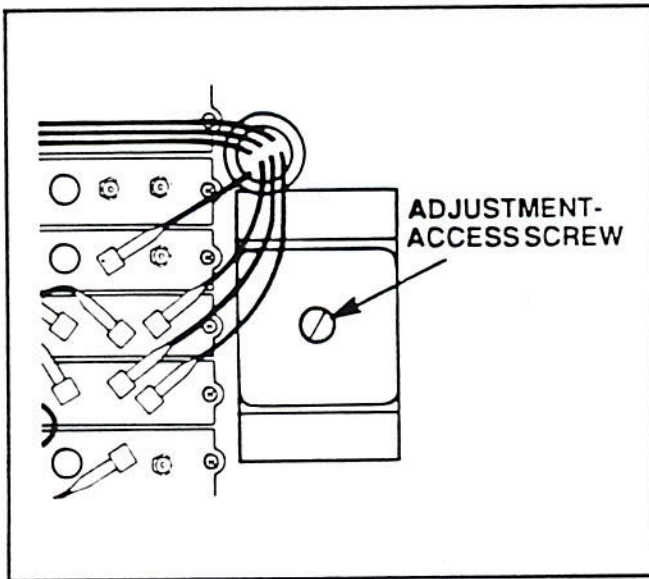

Figure 3-10. Reference Oscillator Oven Tuning Screw Location
5. Remove the adjustment-access screw from the top of the 10 MHz Reference Oscillator oven (see Figure 3-10).